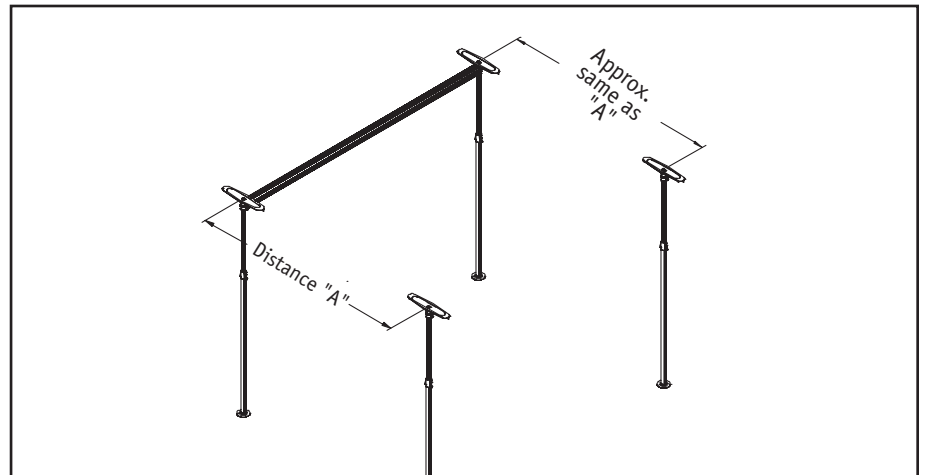

Figure 25
22. Measure the distance between the two installed posts and where you will need to install the second set of posts (Figure 25).